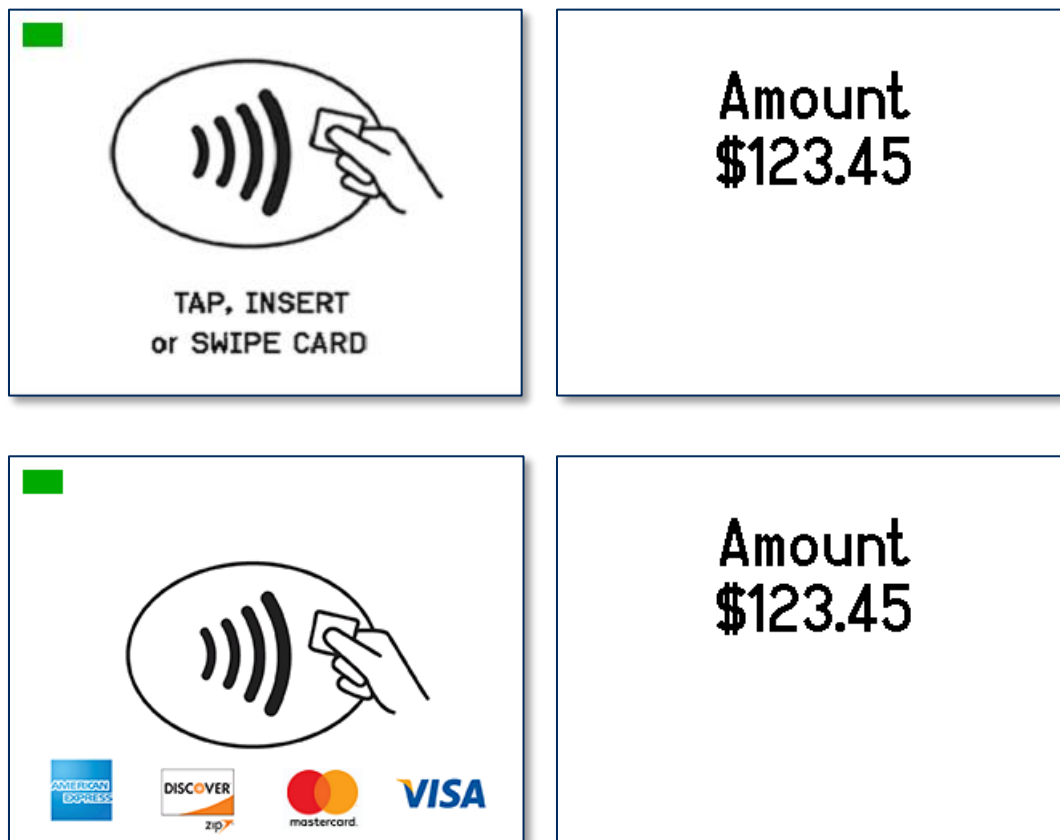

Figure 7-19 - Example Contactless Transaction Screens
- 1) Wait for the display to toggle between the transaction amount and an action prompt (see **Figure 7-19** for examples). The device also shows a solid green rectangle at the upper left corner of the display indicating it is ready for a tap.